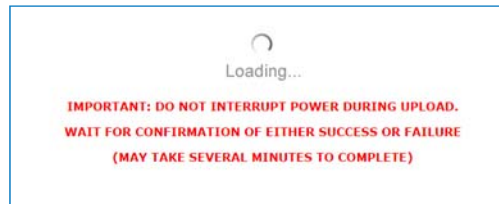
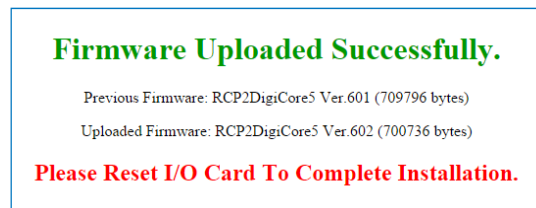

Figure 5-19: Upload Process Message
Figure 5-20: Upload Completed Message
- The upload process will begin and the form will be informing about loading process (See **Figure 5-19**). Do not interrupt this process and wait until its completion with positive or negative result. The process may take up to 15 minutes. When completed, the form will notify about end of process. See **Figure 5-20**.